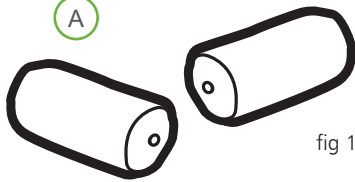

fig 1
2. Internal cushion (x2, one per bolster) Stuff soft material filling inside, which can be purchased from local suppliers, to firmness you require. Sew bolster ends on top and bottom. (Figure 1)